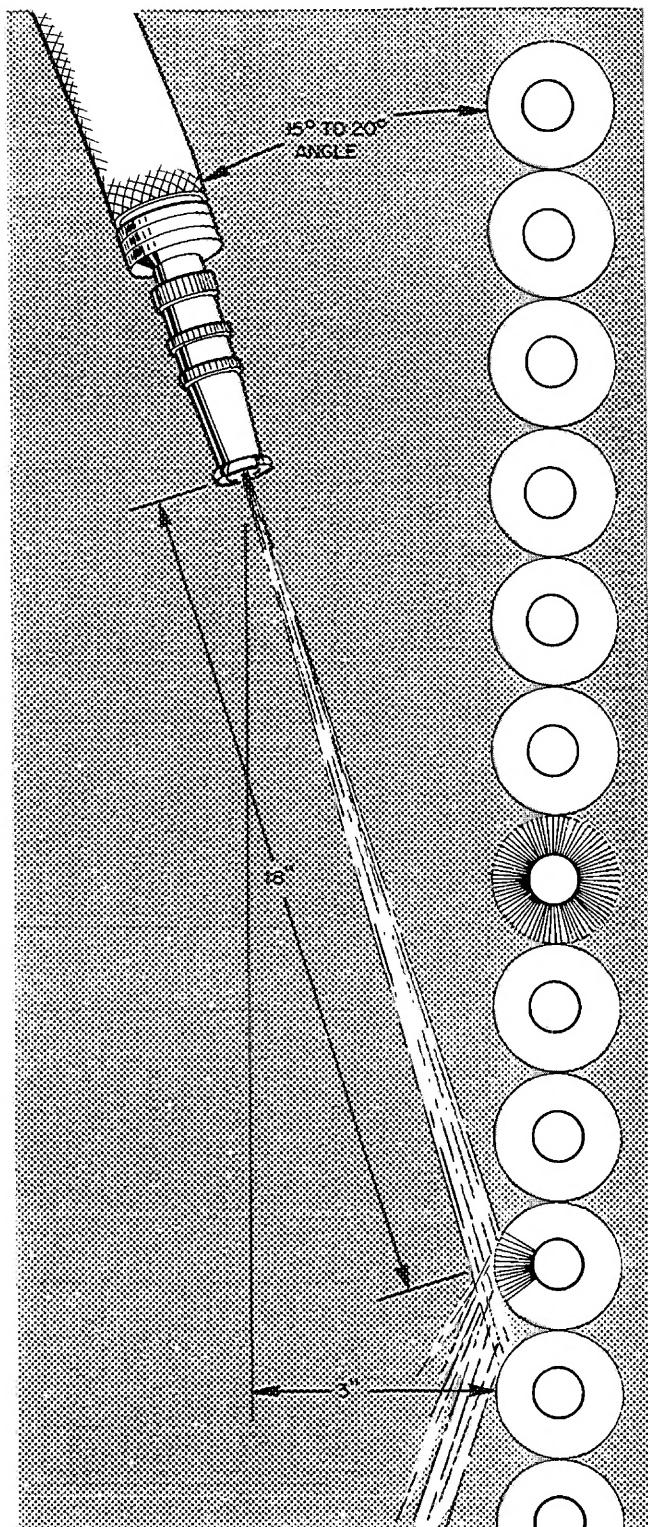

Fig. 17 — Positioning Hose to Spray Coil
5. Using garden hose, spray coil perpendicularly to coil tubes with a constant stream of water at moderate pressure (see Fig. 17). Keep nozzle at a 15 to 20 degree angle, about 3 in. from coil face and 18 in. from tube. Spray so debris is washed out and away from coil making sure water does not contact components on side of chassis.